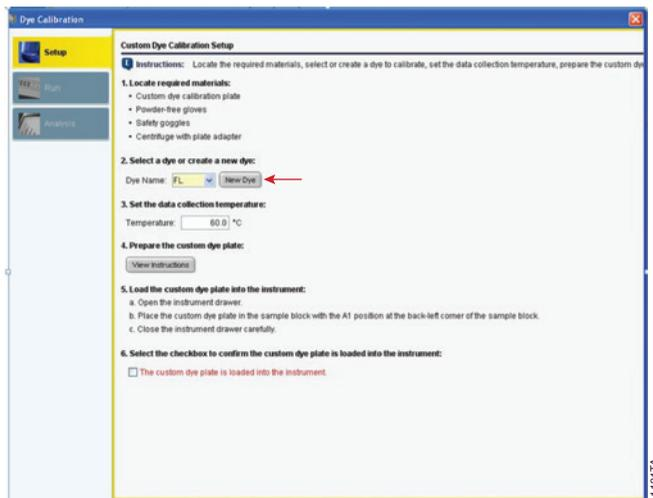

Figure 5. Calibrating a new dye.
7. In the “Custom Dye Calibration Setup” window that follows, select the “New Dye” button (Figure 5).